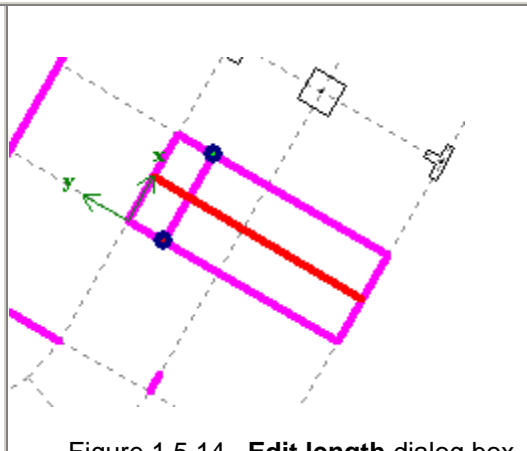

Figure 1.5.14 Edit length dialog box
- on the model, specify the second node — node of intersection of lines 3a and the wall (between lines B1 and C1) as presented in Figure 1.5.14;